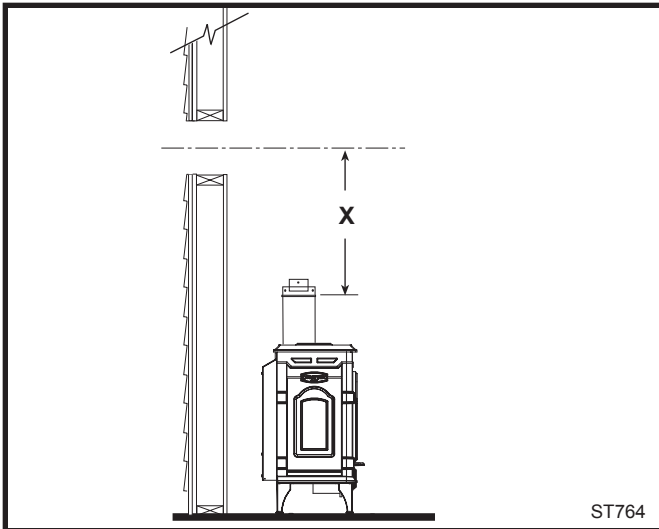

Fig. 24 Determine the vertical pipe length.
4. For CFM Vent Pipe only: If necessary, measure to determine the vertical length (X) of pipe required from the adapter pipe to the wall cutout centerline, including a 2" (51mm) overlap at the joint. (Fig. 24) use a hacksaw or tin snips to trim the pipe as needed.